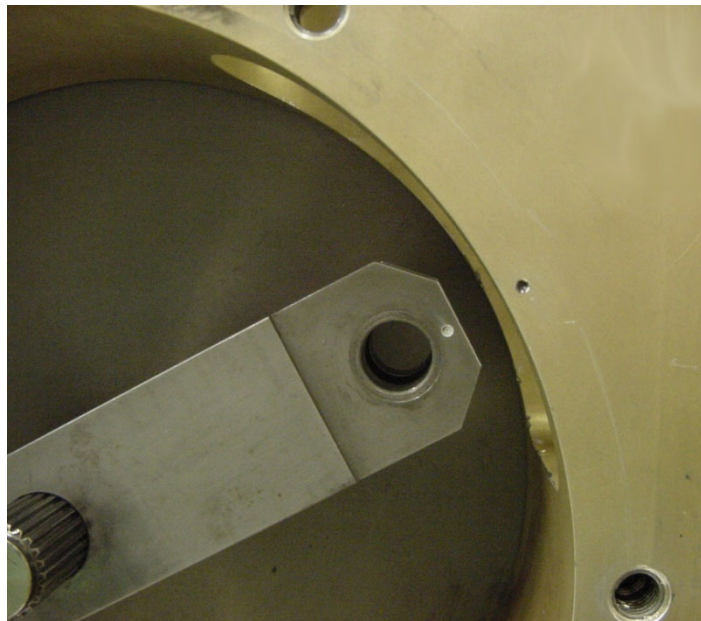

Figure 5-3. Alignment of Index Marks
6. Temporarily place the lever onto the valve shaft, oriented approximately as shown in Figure 5-3.
9. Remove the lever, if necessary, and reinstall it, engaging the lever and shaft spline teeth so as to achieve the closest possible alignment of the index marks on the lever face and the transfer case (see Figure 5-3). The lever index mark should be no more than 1.00 inch (25.4 mm) above (CCW from) the transfer case index mark and should be more than 0.50 inch (12.7 mm) below (CW from) the case index mark.